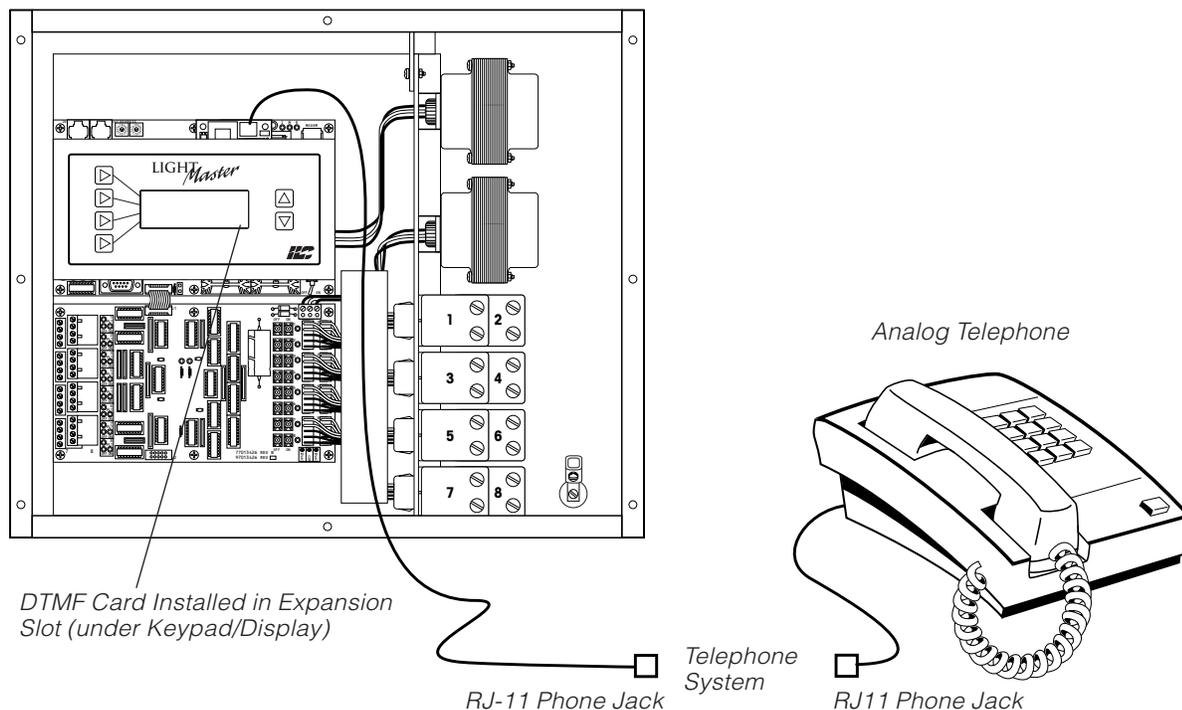

Figure A.1 – DTMF Phone Control
1. The LightMaster must be equipped with a Voice/DTMF Add-On Module. Locate the card on the controller’s processor board. (See Figure A.1.)